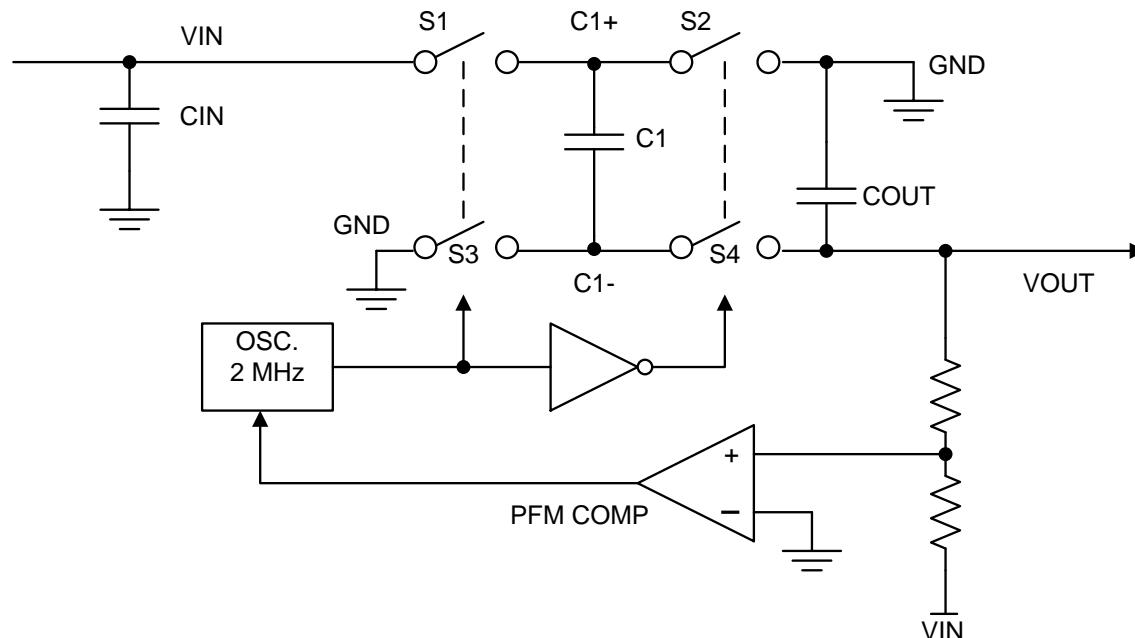

Figure 19. Voltage Inverting Principle
The LM2776 contains four large CMOS switches which are switched in a sequence to invert the input supply voltage. Energy transfer and storage are provided by external capacitors. Figure 19 shows the voltage conversion scheme. When  $S_1$  and  $S_3$  are closed,  $C_1$  charges to the supply voltage  $V_{IN}$ . During this time interval, switches  $S_2$  and  $S_4$  are open. In the second time interval,  $S_1$  and  $S_3$  are open; at the same time,  $S_2$  and  $S_4$  are closed,  $C_1$  is charging  $C_2$ . After a number of cycles, the voltage across  $C_2$  is pumped to  $V_{IN}$ . Because the anode of  $C_2$  is connected to ground, the output at the cathode of  $C_2$  equals  $-(V_{IN})$  when there is no load current. The output voltage drop when a load is added is determined by the parasitic resistance ( $R_{ds(on)}$ ) of the MOSFET switches and the equivalent series resistance (ESR) of the capacitors) and the charge transfer loss between capacitors.
- $R_{SW}$  is the sum of the ON resistance of the internal MOSFET switches shown in Figure 19. (1)